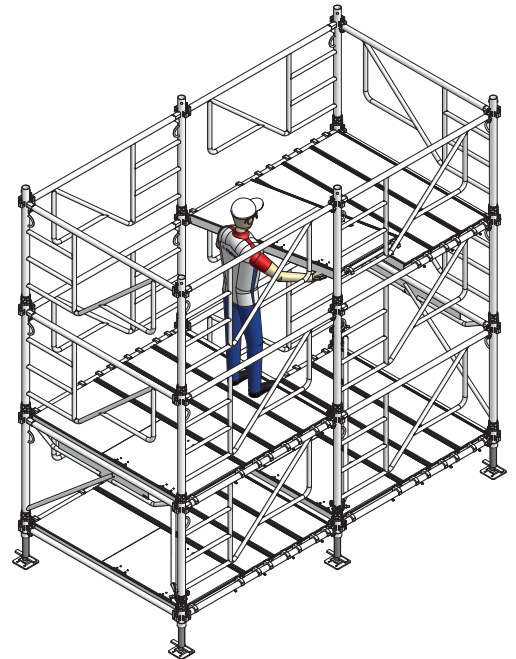

Fig. 17.2
17. Remove the scaffold platforms from level 1 in one tower and suspend them in level 2 (Fig. 17.2).